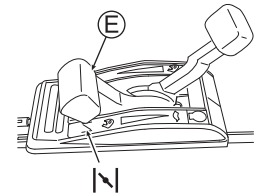

Fig. 12
3. Set the throttle lever (E) to choking "I". (See Fig. 12) (The engine can start by setting the lever at "II" when it is warm.)